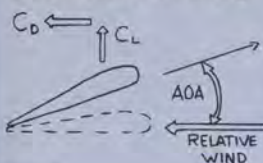

Figure 2
- **Coefficient of Drag (C_D).** This is a number representing drag and derived from the same factors of the particular airfoil's configuration, relative wind, and angle of attack. (Figure 2)